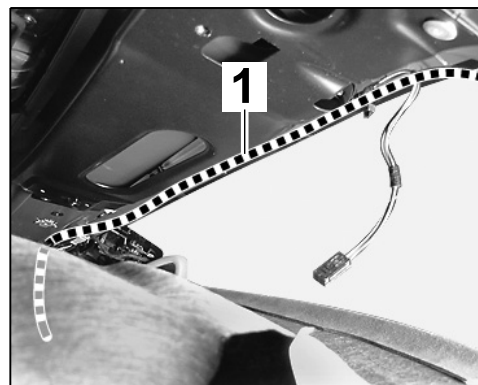

Figure 5
- 2.3.1 Carefully pull down the headliner and route antenna line ⇒ *Figure 5* -1- along the standard wire harness for the sun visor and A-pillar.